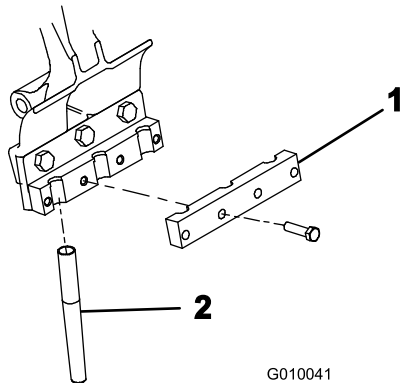

Figure 24
5. Loosely install a tine clamp to each tine holder with 4 bolts (3/8 x 1-1/2 inches) (Figure 24). Do not tighten the bolts.